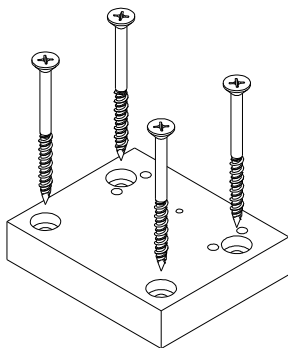

Figure 15:
- c. Fasten to the floor (Figure 15), the bottom section of the Archetype Floor Pivot with the factory provided concrete anchor screws ($1/4$ " FHP Concrete screw, $3-1/4$ ").